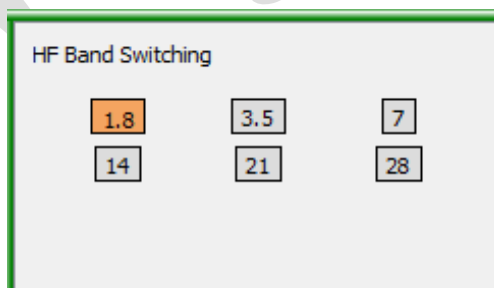

Figure 48 – HF Band Switching
3.4.1.1 Multi-band (HF) Contests
For multi-band (HF) contests the screen layout will have to be modified (see Section 3.5) to display the ‘**HF Band Switching**’ panel (Figure 48). The orange button shows the currently active band.